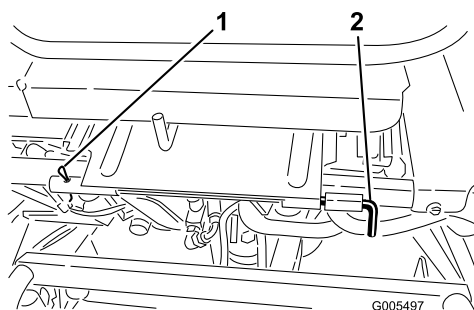

Figure 26
3. Lower the seat and remove the roll pin securing the seat-pivot rod to the frame (Figure 26).